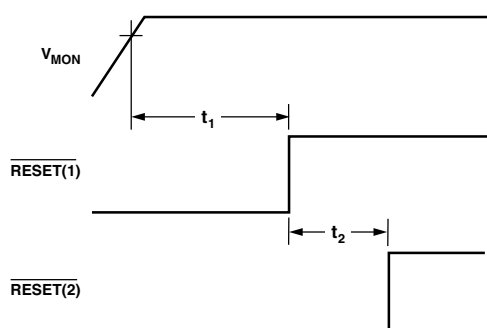

Figure 7. Power-On \overline{RESET} Timing
| Reset Timeout Delay (t ₁) | | 50 | 75 | ms | Figure 7, 8 |
| RESET(2) Timeout Delay (t ₂) | | 10 | 15 | ms | Figure 7, 8 |